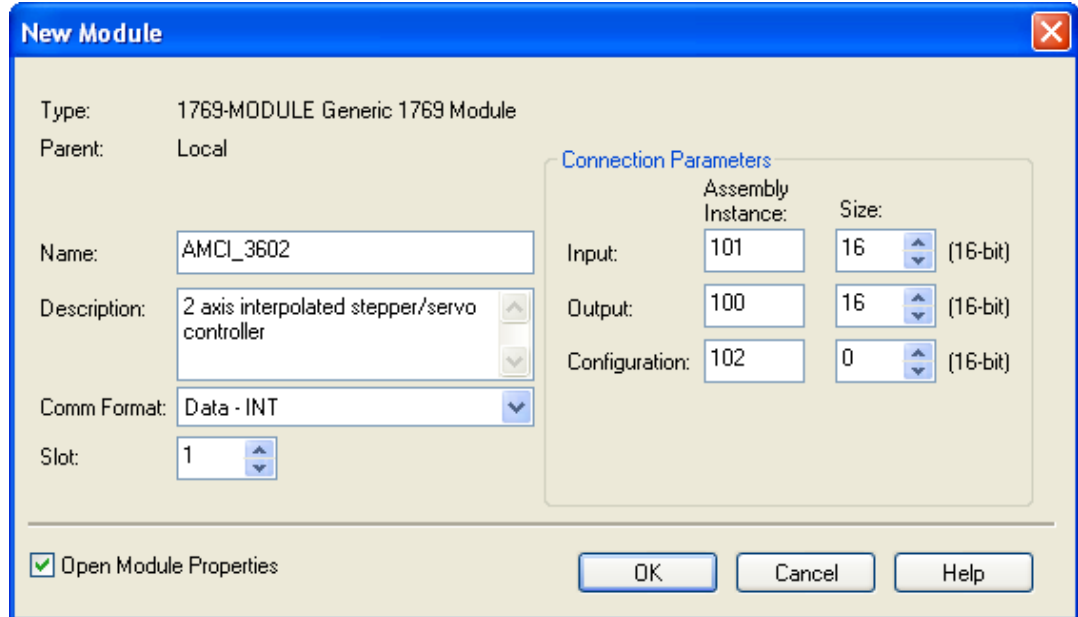

Figure 7.3 New Module Parameters
- 4) Once you double click on the “1769-MODULE” item, the “New Module” window appears. It’s in this window that you configure the parameters for the 3602. The *Name* parameter can be any value but must start with a letter. The *Description* field can be any value. Note that the *Comm Format* field must be changed from “Input Data - INT” to “Data-INT” before the Output Connection parameters can be set. Set the slot number to the module’s location. The remaining parameters must be the same as shown in figure 7.3.